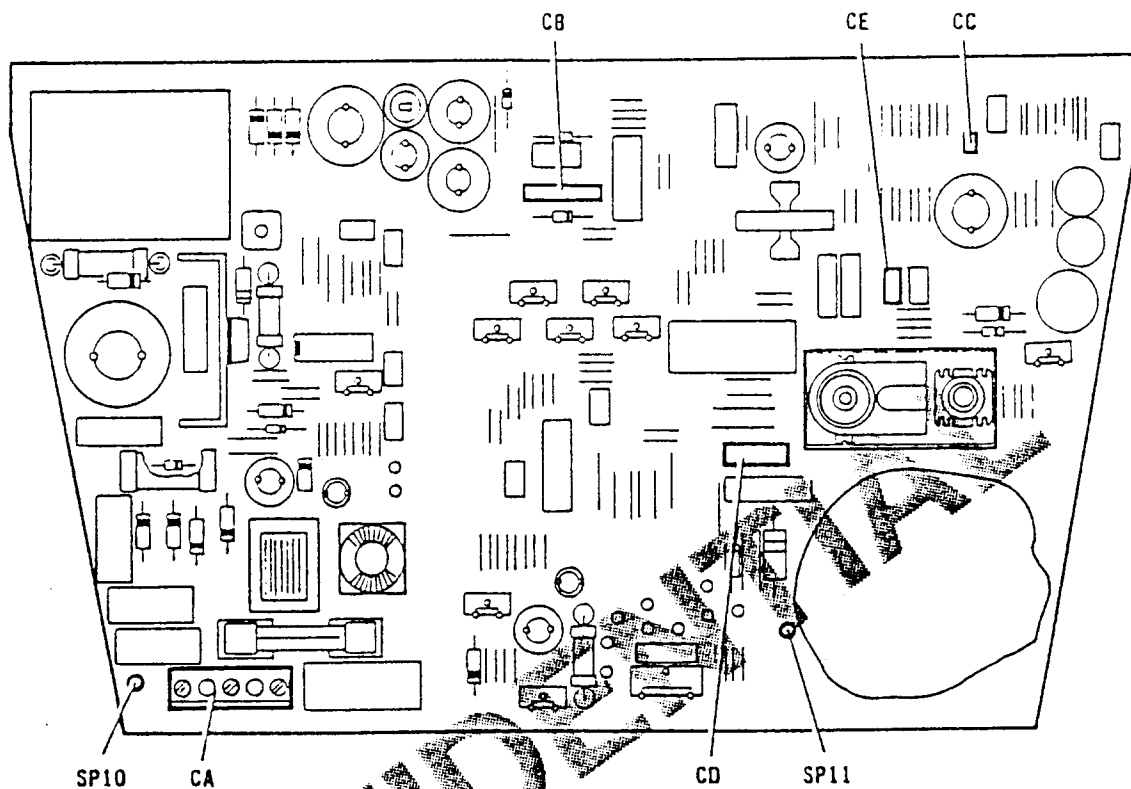
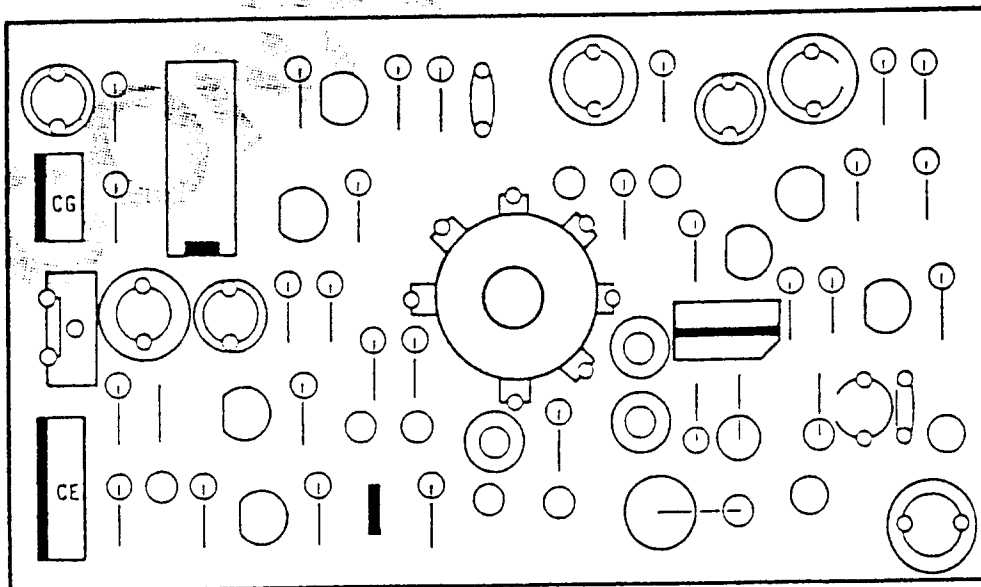

Fig. 1-38 Removal of Main Board Connectors and Fastons
Fig. 1-40 Removal of Contrast Connector
3. Remove the following connectors: vertical yoke (CC), brightness adjustment (CE), video signals input (CB), vertical yoke (CD); remove fastons SP10 and SP11 and unscrew the power cables from connector CA (see figure 1-38).
1. Disassemble the casing as described earlier, then remove connectors CE (brightness adjustment) on the main board (see figure 1-38) and CG (contrast adjustment) on the video final amplifier board (figure 1-40).